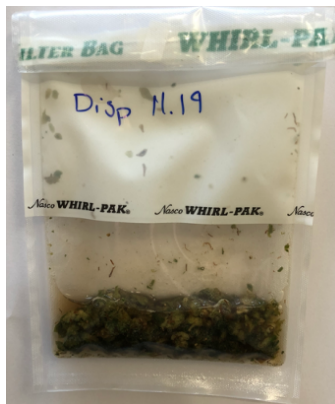

Figure 3: Homogenized cannabis flower and TSB.
10. If processing multiple samples, be sure to change gloves between each, to ensure there is no cross-contamination between samples during the weighing process. See flower example in Figure 3.